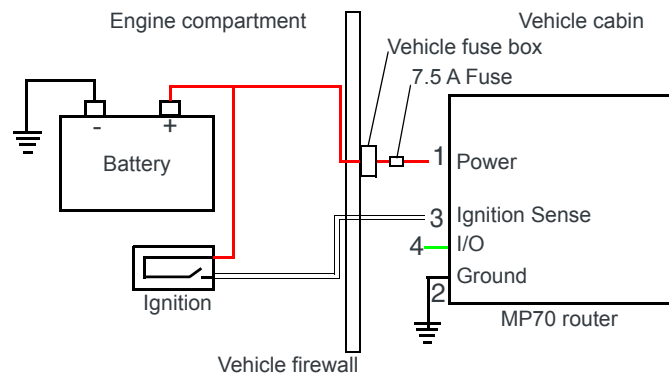

Figure 2-5: Recommended Vehicle Installation
6. Use a 7.5 A, fast blow fuse, recommended to have no more than +/- 10% de-rating over the operating temperature range, to connect the red (power) wire on the DC power cable to the vehicle's fuse box. (See Figure 2-5.)